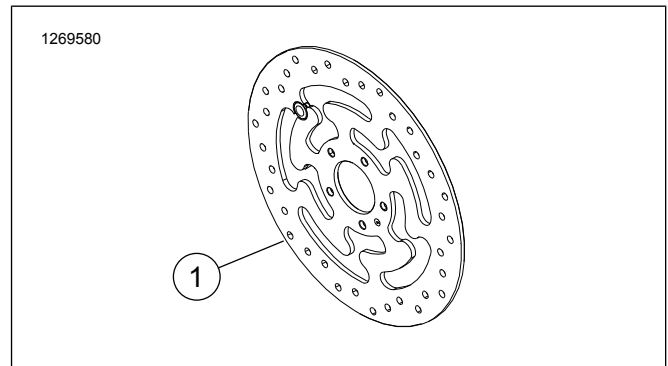

Figure 1. Front Brake Disc
- Brake Disc Screws. See Figure 1 and Table 1.